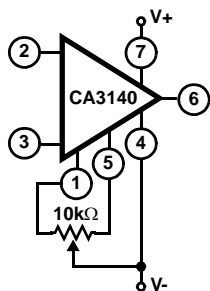

FIGURE 3A. BASIC
The input offset voltage can be nulled by connecting a $10k\Omega$ potentiometer between Terminals 1 and 5 and returning its wiper arm to terminal 4, see Figure 3A. This technique, however, gives more adjustment range than required and therefore, a considerable portion of the potentiometer rotation is not fully utilized. Typical values of series resistors (R) that may be placed at either end of the potentiometer, to optimize its utilization range are given in the Electrical Specifications table.